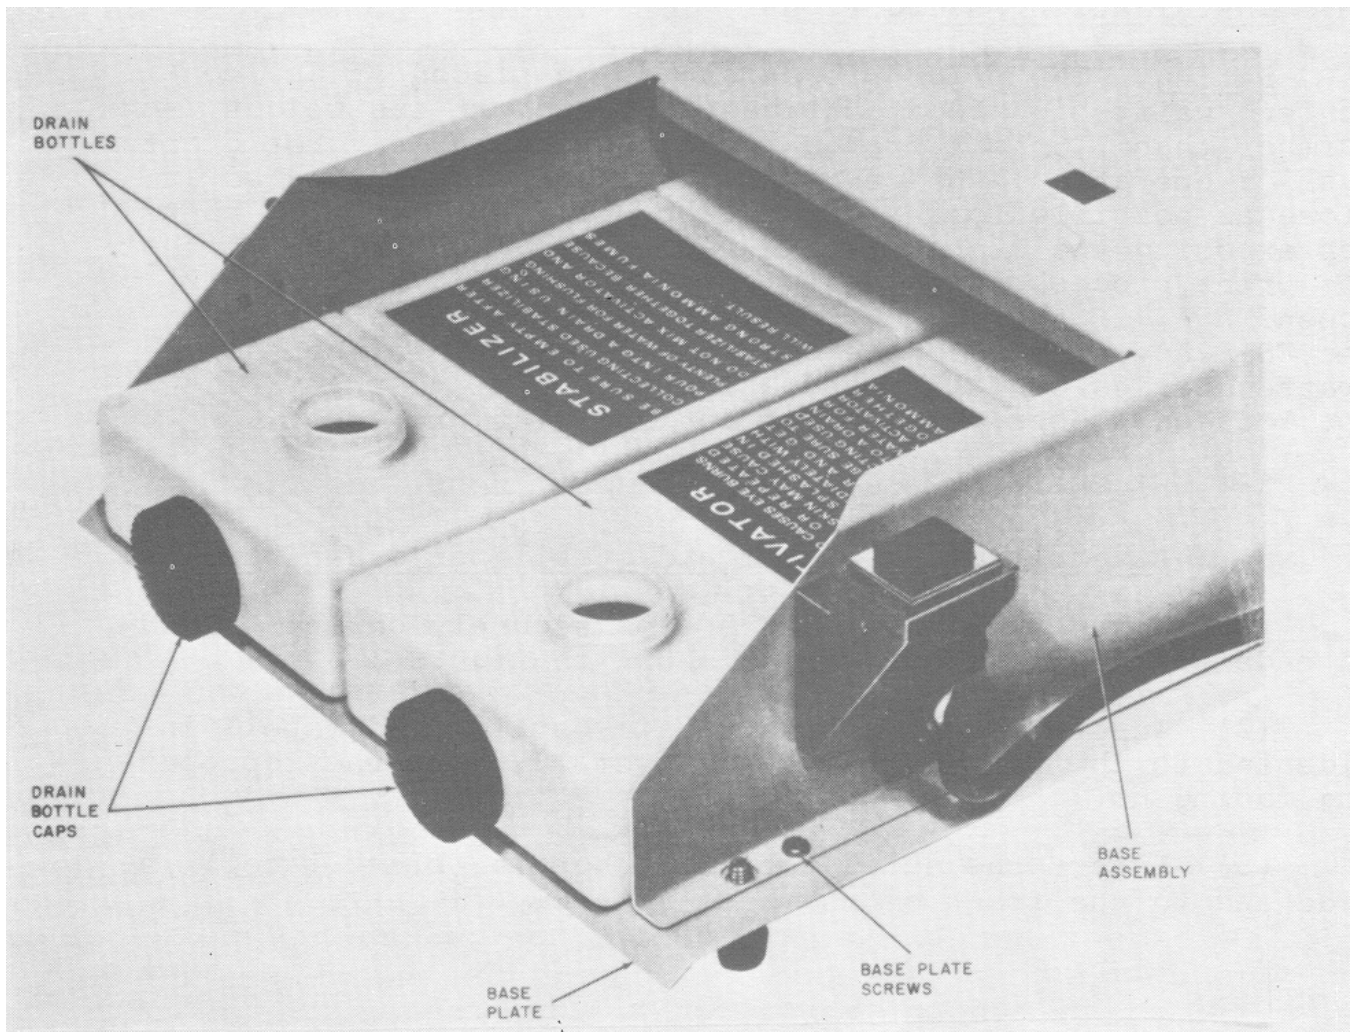

FIGURE 3-6. Assembly of activator and stabilizer drain bottles.
(1) Screw the drain bottle caps securely on the threaded ends of the drain bottles as shown in figure 3-6.
(2) Insert the stabilizer drain bottle (red label) inside and to the rear of the base assembly, with the top opening facing up.
(3) Insert the activator drain bottle (black label) inside and to the front of the base assembly.